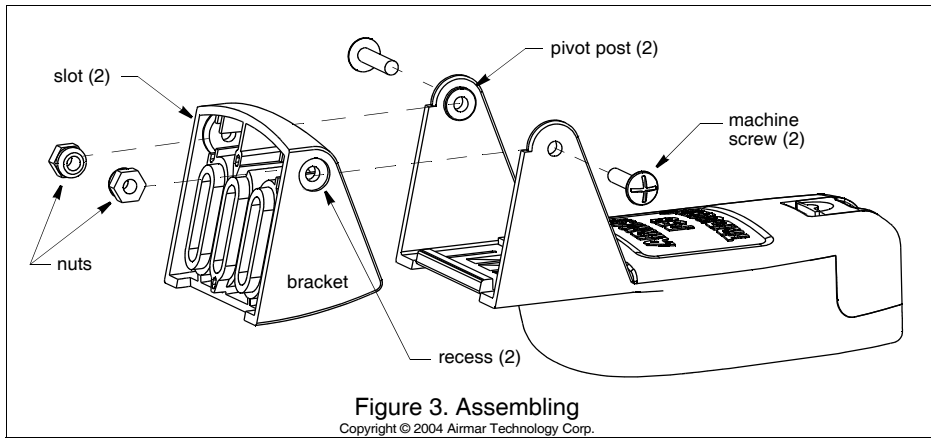

Figure 3. Assembling
1. Insert the multisensor’s pivot posts into the recesses on the sides of the bracket (see Figure 3).
1. Apply marine sealant to the threads of two, #10 x 1-1/4", self-tapping bracket screws to prevent water seepage into the transom. *Be sure* the nuts are in the slots in the back of the bracket and any shim(s) is in place (see Figure 3). Screw the multisensor to the hull (see Figure 4). *Do not tighten the screws completely at this time.*